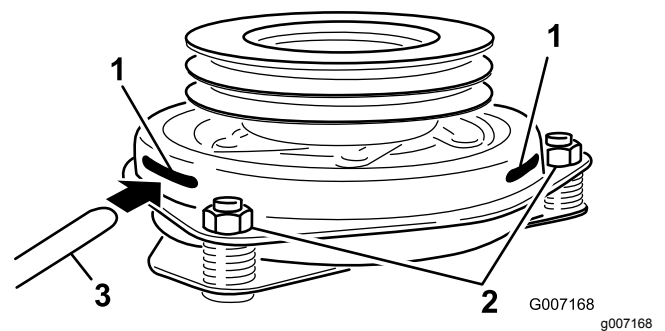

Figure 56
9. Insert a 0.381 to 0.533 mm (0.015 to 0.021 inch) feeler gauge through 1 inspection slot in the side of the assembly. Make sure it is between the armature and the rotor friction surfaces (Figure 56).
10. Tighten the locknuts until there is slight binding on the feeler gauge but it can be moved easily within the air gap (Figure 56).